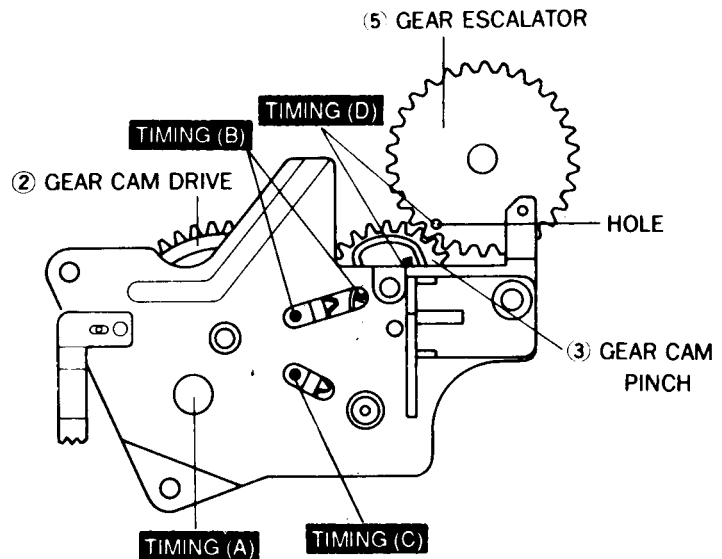

Fig. 50 Reassembly of Drive Pinch Ass'y & Gear Escalator
5. While installing align the arrow mark of the gear cam pinch ③ with the hole of the gear escalator ⑤.
(Refer to timing (D) in Fig. 50)
6. When aligning the timing (D), be sure to line up the timing (A), (B), (C).
7. Install the two (2) screws.